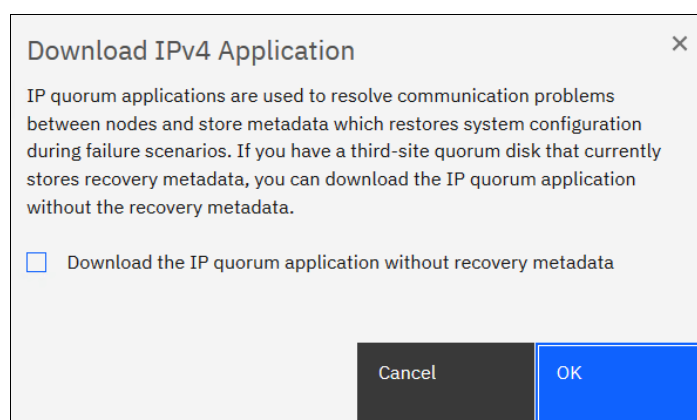

Figure 3-45 Download IP quorum application window
2. After you click **Download...**, a window opens, as shown in Figure 3-45. It provides an option to create an IP application that is used for tie-breaking only, or an application that can be used as a tie-breaker and to store recovery metadata.